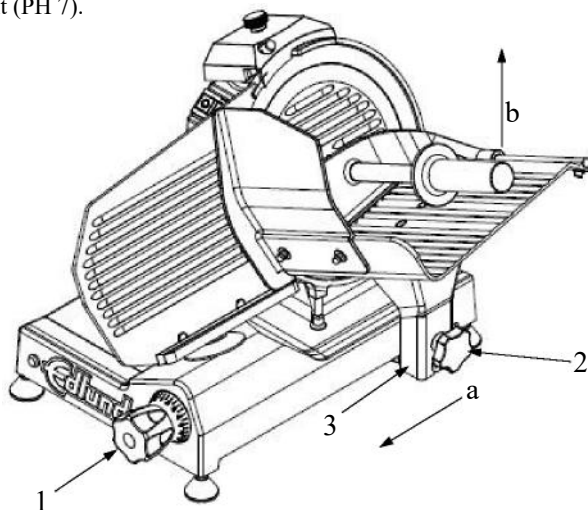

FIG. no. 10 - Release of the carriage
6.2.1 - Meat hopper cleaning (see FIG. no. 10)